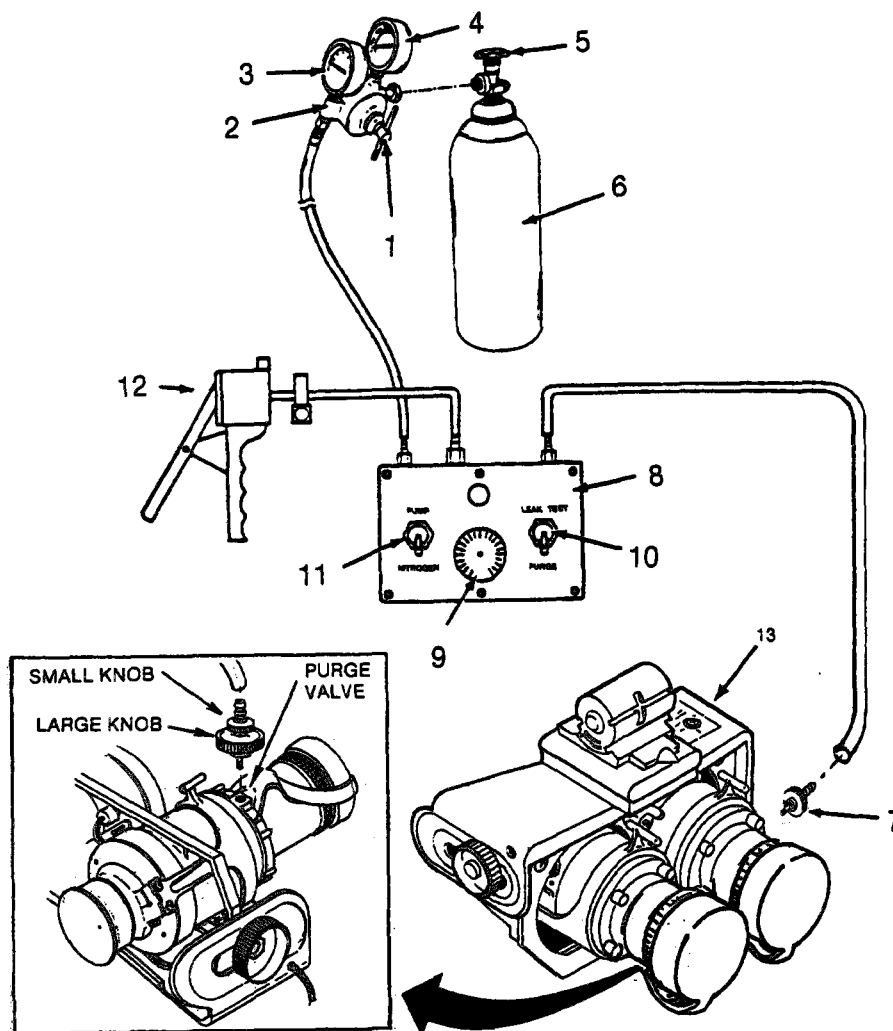

Figure 4-3. Connecting the Purge Equipment.
1. Using the 15-inch adjustable wrench, connect the pressure regulator (2) and purge device (8) to the nitrogen tank as shown in Figure 4-3. The fire control purge kit includes items (1), (2), (3), and (4) shown in figure 4-3.
2. Set the pressure regulator valve (1, fig. 4-3) for zero by turning the regulator valve handle (1) counterclockwise until there is no spring pressure on the control.
8. Press the hose onto the purge adapter (Fig. 4-3, 7) (or if available, connect the quick disconnect).
9. Using the large knob of the purge adapter, engage the tabs into the slots of the purge valve. Rotate the adapter counterclockwise 1 1/2 to 2 turns to open the purge valve. Flip the PUMP/NITROGEN switch (Fig. 4-3, 11) to NITROGEN.
12. On the purge device, set the PUMP/NITROGEN switch (11, fig. 4-3) to PUMP, Pump the vacuum handle (12, fig 4-3) at least 5 times while observing the gauge on the purge device (8). Make sure the needle moves to at least -10 inHg. If you cannot reach -10 inHg, remove the purge adapter, wrap a small piece of Teflon tape around the threads of the adapter and repeat steps 7 through 12. If the goggle still will not produce the necessary vacuum, check for defective preformed packing by performing a leak test to check purge adapter seals and NVG preformed packing. To conduct leak test, apply leak detection solution to the purge adapter valve area and NVG mate surfaces and apply 3.0 psi.